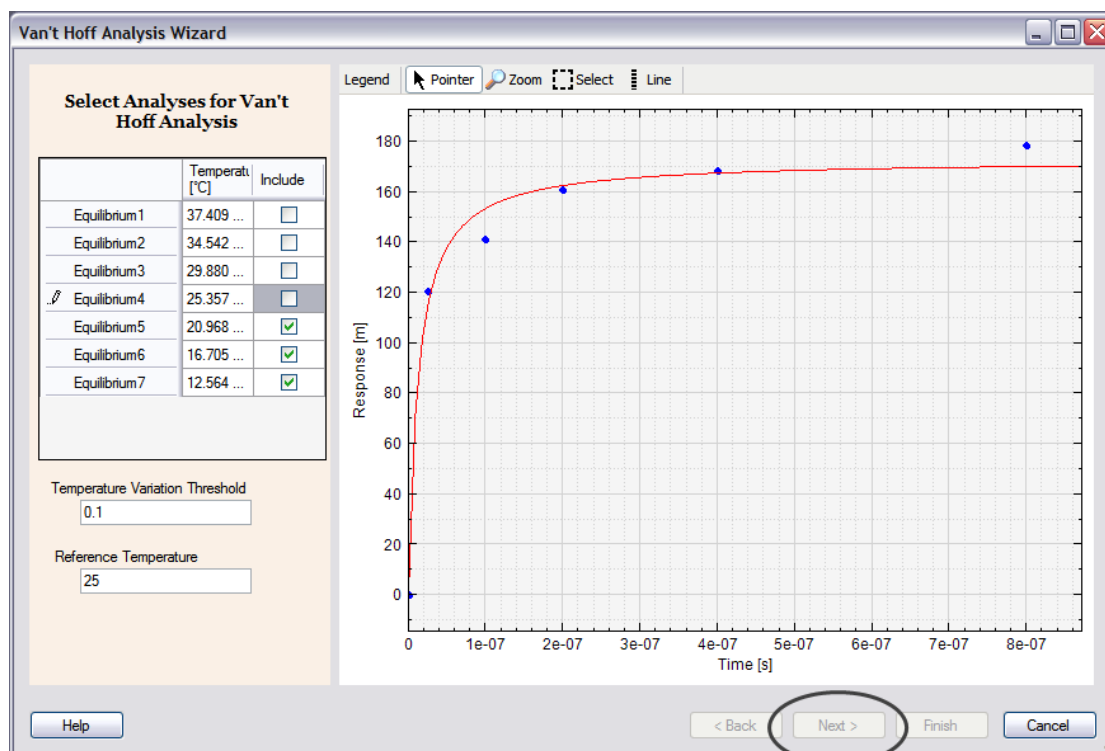

Figure 7.12 – Van’t Hoff analysis requires four equilibrium analyses. Including less than four will disable the “Next” button.
Because the Van't Hoff Analysis requires four K_A data points to over-constrain the three constants in the fit, if the user includes less than four analyses, the *Next* button will be disabled, as shown in Figure 7.12.
Step 2 of the Van’t Hoff analysis is to do the actual fit. Click on the **Next** button to show the second panel of the Van’t Hoff Wizard. This panel is shown in Figure 7.12.